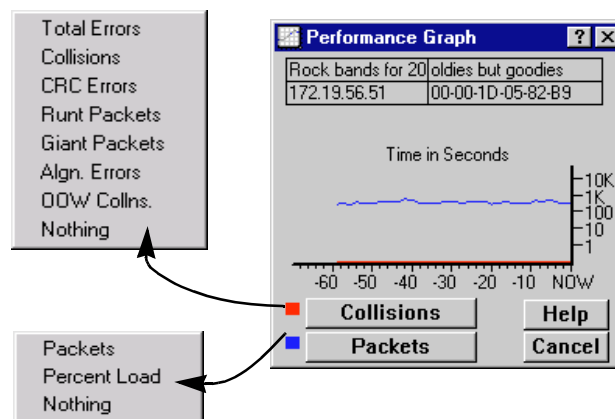

Figure 3-6. Performance Graph
2. Drag down to **Performance Graph...** and release. The Repeater Performance Graphs window, Figure 3-6, will appear.
The Board and Port Performance Graph windows are the same as the Performance Graph window displayed in Figure 3-6, except that they display statistics applicable to the selected board or port. Each Performance Graph window allows you to graph the following statistical variables: